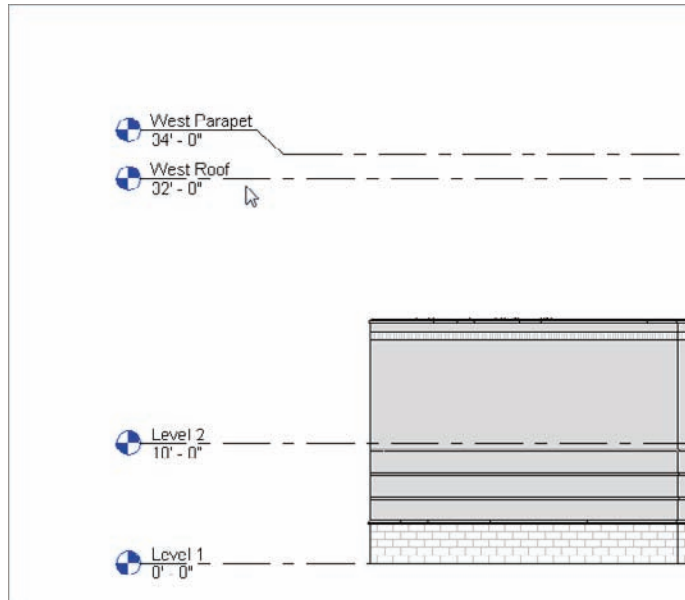

FIGURE 3.27 You can drag the 2D level ends wherever you want them.
8. Pick the blue grip and drag the end to the left side of the building, approximately to the location shown in Figure 3.27. Notice that the two 2D lines are locked to one another.
11. Switch these levels to 2D and drag them to align with the West Parapet and West Roof levels, as shown in Figure 3.27.